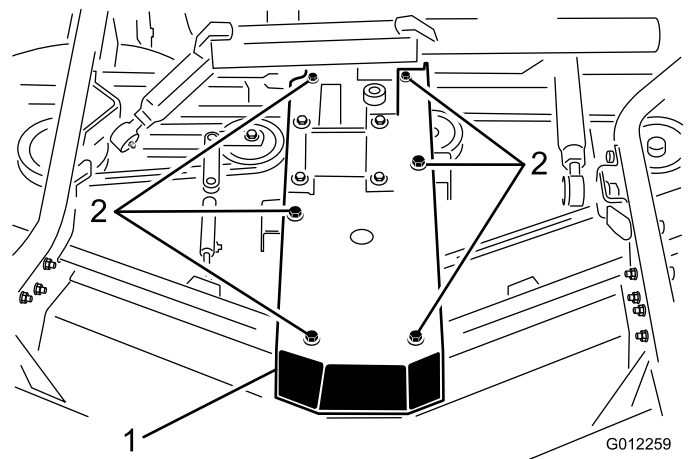

Figure 23
- Remove the capscrews and nuts securing the gear box plate to the deck channels (Figure 23). Lift the gear box plate and gear box off of the deck channels and lay it on top of the deck.